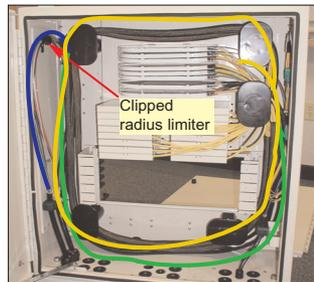

Fig. 34
- Route the grouped buffer tubes first over the small radius limiter (with a clip) (Fig. 34 - blue line) and then around the cabinet (Fig. 34- green line).
- The IFC pigtails are grouped in mesh sleeving and routed around the radius limiters. Route the IFC pigtails with the corresponding bundle of buffer tubes around the radius limiters and the splice sleighs (Fig 34 - orange line).